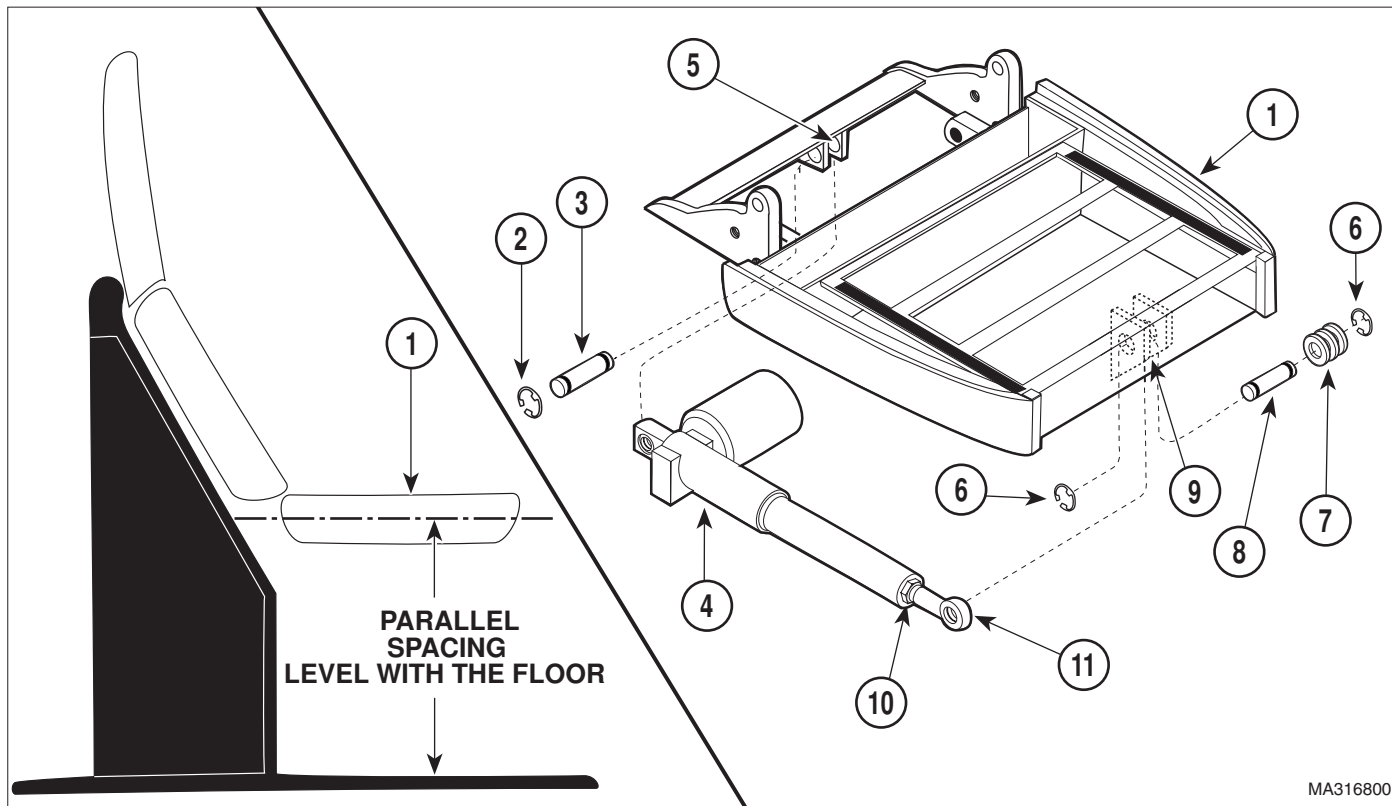

Figure 4-3. Seat Actuator Removal / Installation
- (7) On later units, remove two screws (9) and partially separate receptacle bracket (10) from pivot frame (11).
- (8) Cut any cable ties securing wire / wire harnesses to seat actuator (2).
- (9) While supporting seat section (1, Figure 4-3), remove two e-rings (2), clevis pin (3), and base of seat actuator (4) from bracket (5).
- (10) While supporting seat section (1), remove two e-rings (6), spacers (7), clevis pin (8), and seat actuator (4) from bracket (9). Remove seat actuator from chair.
- (1) Loosen jam nut (10, Figure 4-3); then remove swivel joint (11) from shaft of new seat actuator (4).
- (2) Coat threads of swivel joint (11) with permanent threadlocking adhesive (Loctite 262).
- (3) Screw swivel joint (11) into shaft of seat actuator (4).
- (4) While supporting seat section (1), install base of seat actuator (4) on bracket (5) and secure with clevis pin (3) and two e-rings (2).
- (5) While supporting seat section (1), install shaft end of seat actuator (4) on bracket (9) and secure temporarily with clevis pin (8).
On later units, connect wire harness (3B) to seat up limit switch (4).</p> <p>(10) Secure wires / wire harnesses to seat actuator (2) with a cable tie.</p> | <p>(11) Install actuator sleeve (1) on shaft of seat actuator (2) and secure with two cable ties.</p> <p>(12) Run SEAT UP function all the way up and then run TABLE DOWN function all the way down.</p> <p>(13) If seat section (1, Figure 4-3) is level with floor, go to step 18. If seat section (1) is not level with floor, go to step 14.</p> <p>(14) While supporting seat section (1), remove clevis pin (8) securing swivel joint (11) of seat actuator (4) to bracket (9).</p> <p>(15) Screw swivel joint (11) in or out as determined necessary in step 13.</p> |